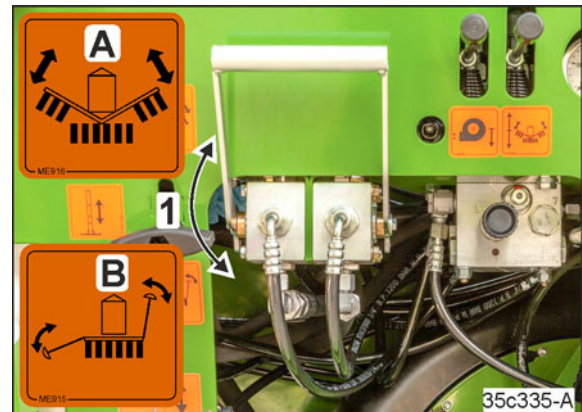

Fig. 223
1. In combination with track markers, set the valve lever (Fig. 223/1) to position "A".
1. Put the valve lever (Fig. 223/1) to position "B".